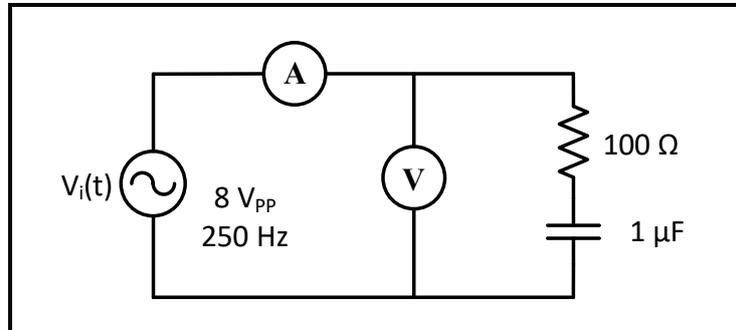

Figure 8.10
4. Connect the circuit in Figure 8.10, set V_{in} to sinusoidal voltage at $8 V_{PP}$, and $f = 250$ Hz.
a. Repeat steps (a) and (b) in (1) for the circuit in Figure 8.10 record results in Table 8.4.